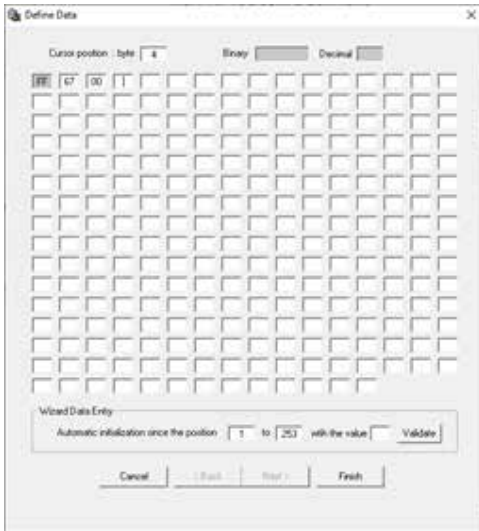

Figure 44.1. Define Data window.
- In the Send New Frame window, select XX Free Request. The Define Data window appears, as shown in Figure 44.1.